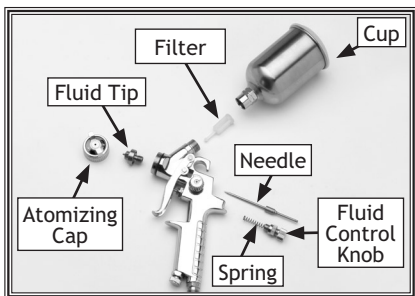

Figure 10. Disassembled for cleaning.
4. Disassemble the gun by unscrewing the fluid control knob, removing the spring and needle (Figure 10).
5. Unscrew the atomizing cap with your fingers and the fluid tip with the service wrench. The fully disassembled gun should look like Figure 10.